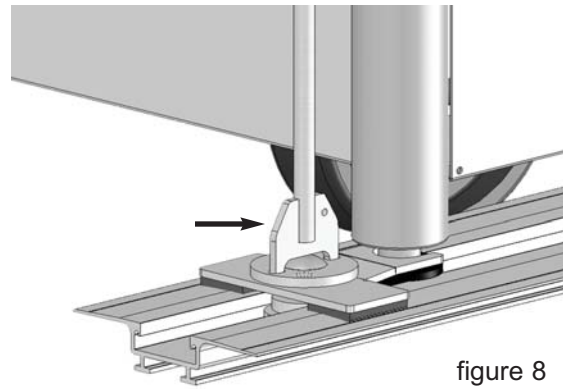

figure 8
3. Insert the Track Lock handle into the track pivot (figure 8).